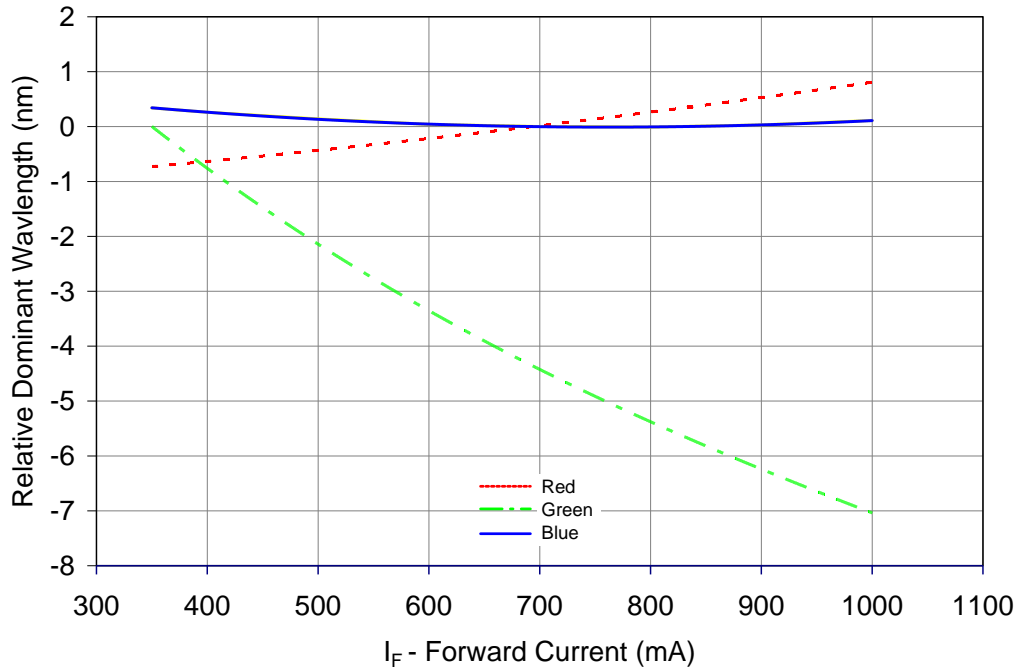

Figure 6: Typical dominant wavelength shift vs. forward current @  $T_c = 25^\circ\text{C}$ .
2. Green LEDs are binned for dominant wavelength @  $I_F = 350\text{mA}$ . Refer to Figure 6 for typical dominant wavelength shift over forward current.
- Refer to Figure 6 for typical dominant wavelength shift over forward current.
Notes for Figure 6: